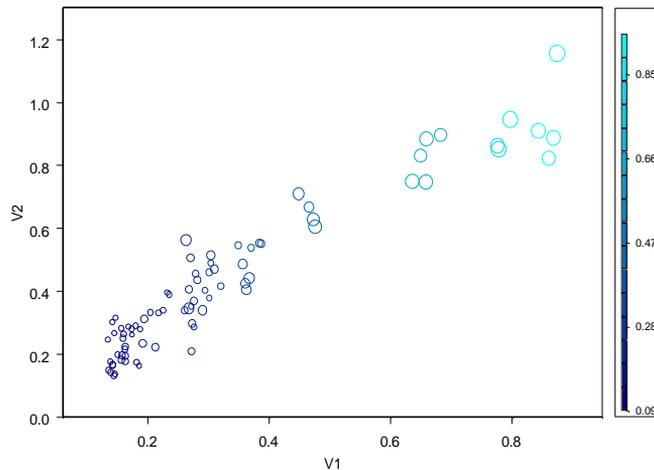

Figure 3.33: *Bubble color plot of the sensors data.*
- Now click the **Color Scale Legend** button  on the **Graph** toolbar to add a legend relating the $V4$ value to the color of each point. (You can modify symbol size and color ranges on the **Vary Symbols** page of the **Line/Scatter Plot** dialog.) The resulting plot is shown in Figure 3.33.